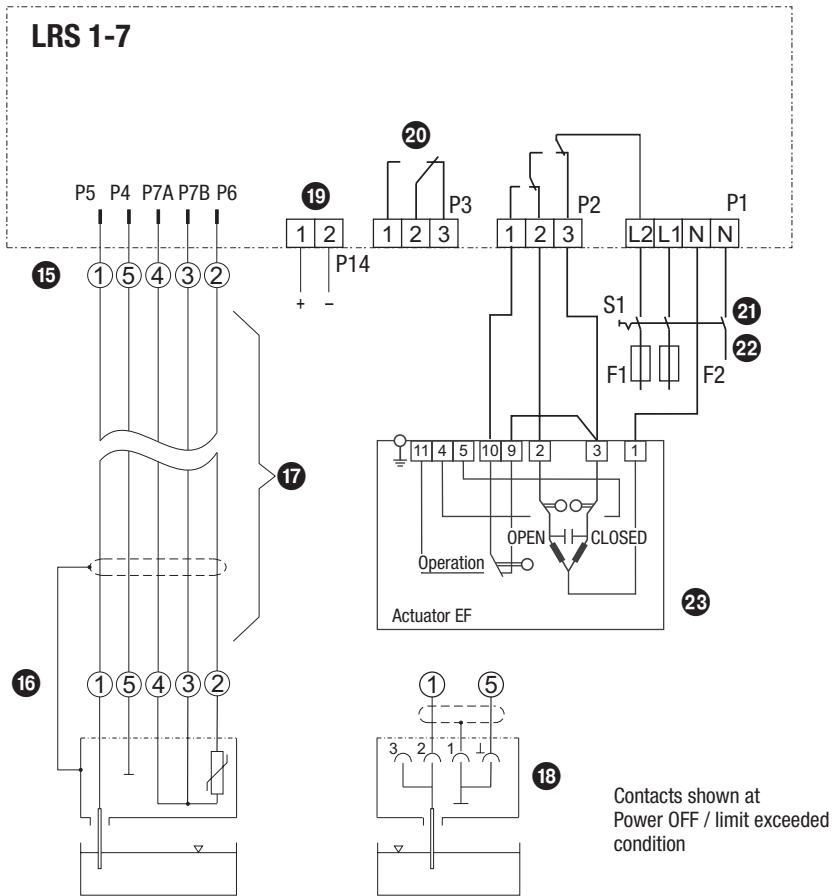

Fig. 4
The conductivity electrode LRG 16-9 and the conductivity switch LRS 1-7 are equipped with M 12 sensor connectors with 5 poles and A coded; for connection see **Fig. 4 and Fig. 5**. For connecting the equipment control cable assemblies (with male and female connectors) of various lengths are available as add-on equipment.
- If the above-mentioned control cable assembly is not used, the connecting line must be provided with a connector and a screened jack according to the wiring diagram **Fig. 4**.
- Connect the screen in the connector of the conductivity electrode, see wiring diagram **Fig. 4 and Fig. 5**.